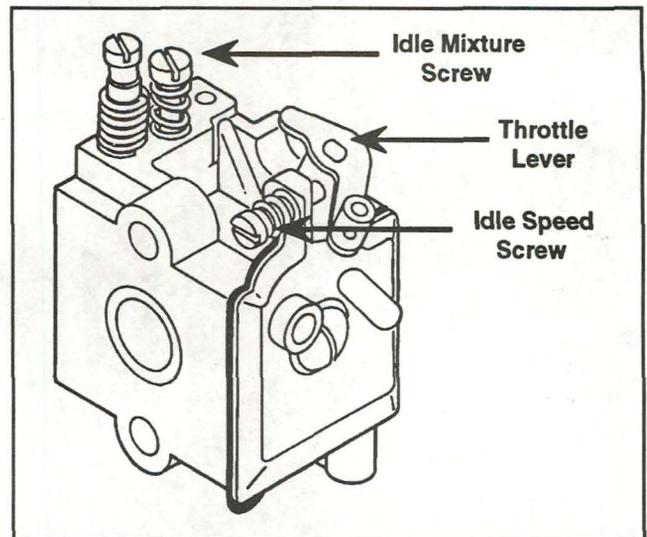

Fig. 32
2. **Initial Idle Speed Setting** - Back the idle speed screw **counterclockwise** (Fig. 32) out until it *does not contact* the carburetor throttle lever. Then turn the screw in, **clockwise**, until it *begins to move* the throttle lever; then continue turning **2 full turns**.
3. **Initial Idle Mixture Setting:** Turn the idle mixture screw **clockwise** (Fig. 32) until it is *lightly* seated. Then turn the screw **counterclockwise 1-1/2 turns**.